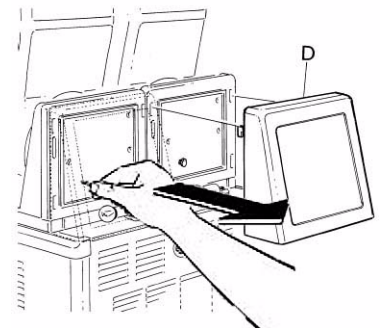

FIGURE 3
- A. Lift up and remove rear back-lit merchandiser panel (see Figure 3).
- B. Pull out each pin attached to each tag (see Figure 3).